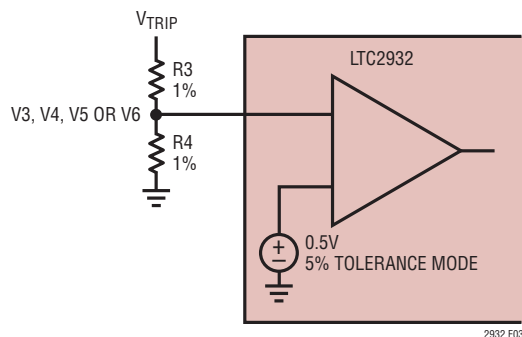

Figure 3. Setting the Positive Adjustable Trip Point
* See Figure 3.
The reference inputs on the V3 and/or V4 comparators are set to 0.5V when the positive adjustable modes are selected (Figure 3). The reference inputs on the V5 and V6 comparators are always set to 0.5V. The tap point on an external resistive divider, connected between the positive voltage being sensed and ground, is connected to the high impedance, adjustable inputs (V3, V4, V5, V6). Calculate the trip voltage from: